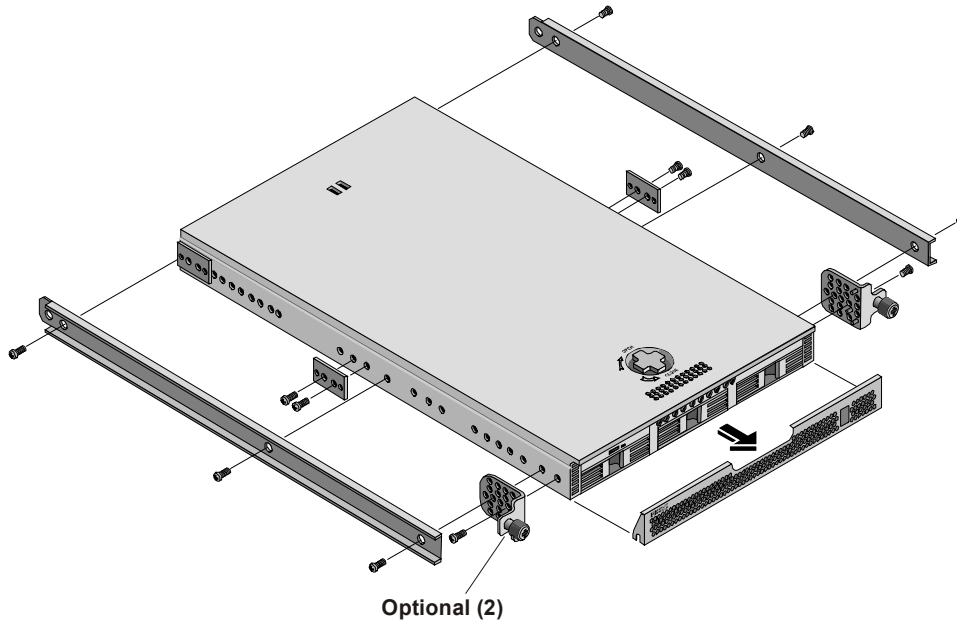

Figure 7-3. Removing Existing Hardware
2. Remove the front bezel on the Netserver chassis, if not already removed. See Figure 7-3.
3. Remove the screws holding the inner-rails and spacers on each side of the chassis. See Figure 7-3.
4. If mounting flush mount brackets, remove the screws holding the front mounting brackets to each side of the chassis. See Figure 7-3.
- b. If you are mounting the HP Netserver as a center mount, you only need the flush mount brackets to mount to the Netserver chassis. Leave the original front mounting brackets to provide a connection for the front bezel. See Figure 7-3.